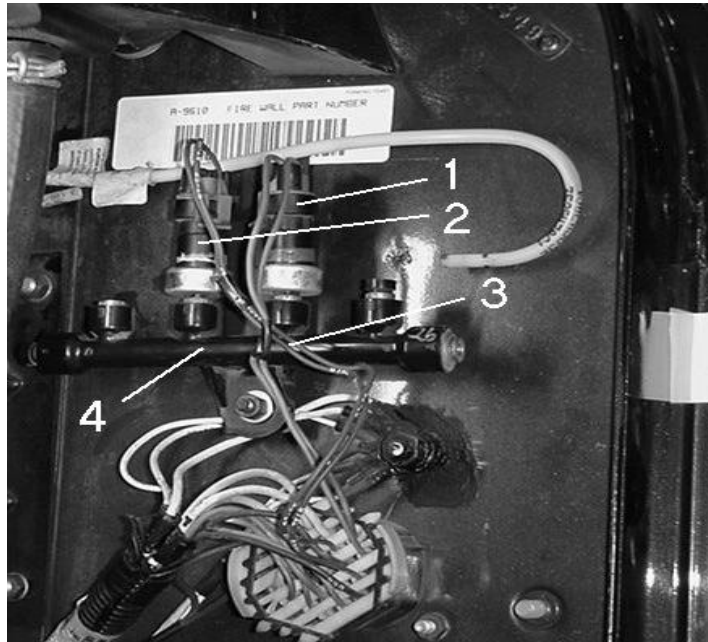

FIGURE 1: PROPER ORIENTATION OF AIR SWITCH MANIFOLD
Introduction: This procedure explains how to replace the air pressure actuated brake light switch, shown below as item 1 in FIGURE 1.
3. Check the orientation of the brake switch. It should be mounted as shown in Figure 1 above with the electrical connectors above the switch. If it is inverted and the electrical connectors are below the switch, STOP and complete Safety Recall 00506 by referencing Safety Recall letter G-00506.